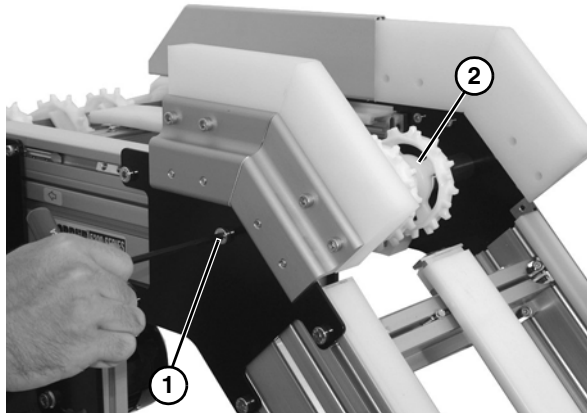

**Figure 52**
2. Remove two socket cap screws (**Figure 52, item 1**) for all four hold down guards (**Figure 52, item 2**) on side of lower knuckle assembly (**Figure 52, item 3**).